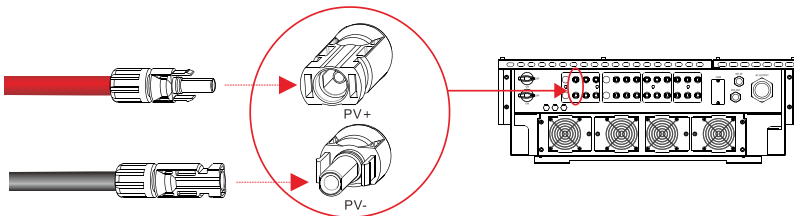

Figure 5.13 Connecting to the inverter
- Step 6 : Insert the positive and negative connectors into their corresponding terminals on the inverter until a “click” sound is heard, as shown in Figure 5.13